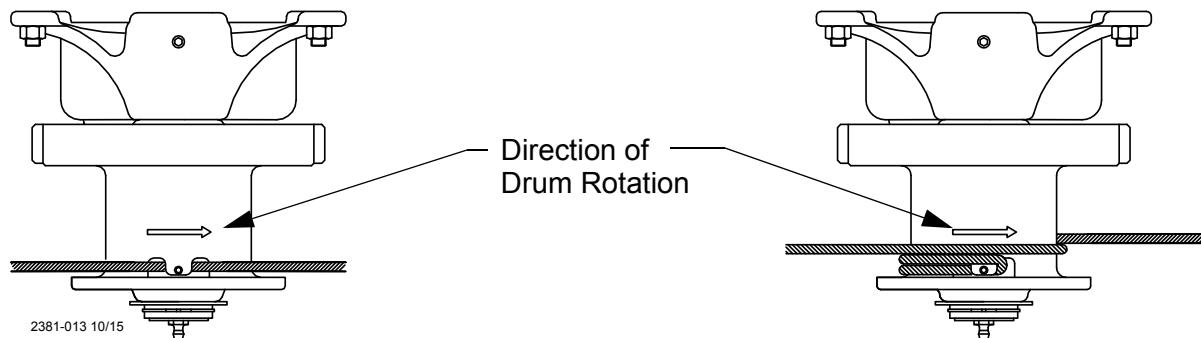

Figure 13. Cable Installation & Wrap
4. Wrap the cable through the winch drum relief located near the bottom of the drum. Tighten the set screw to anchor the cable to the drum, see **figure 13**.
5. Turn the winch drum one full revolution. Guide the cable against the flange at the bottom of the winch drum. The cable must not wrap over itself on the drum, but should be wrapped as close as possible to each previous wrap, see **figure 13**.